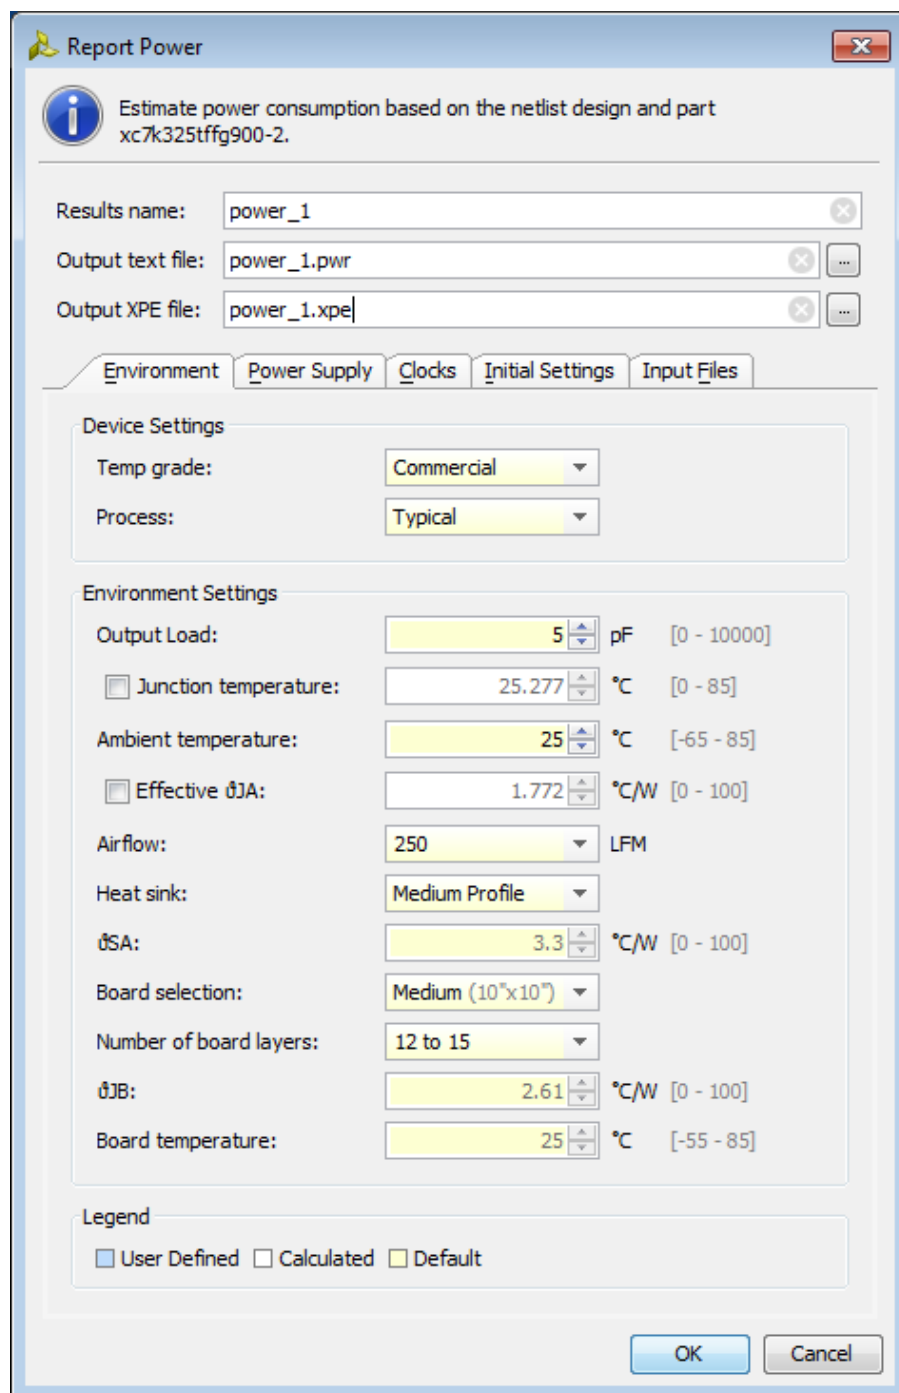
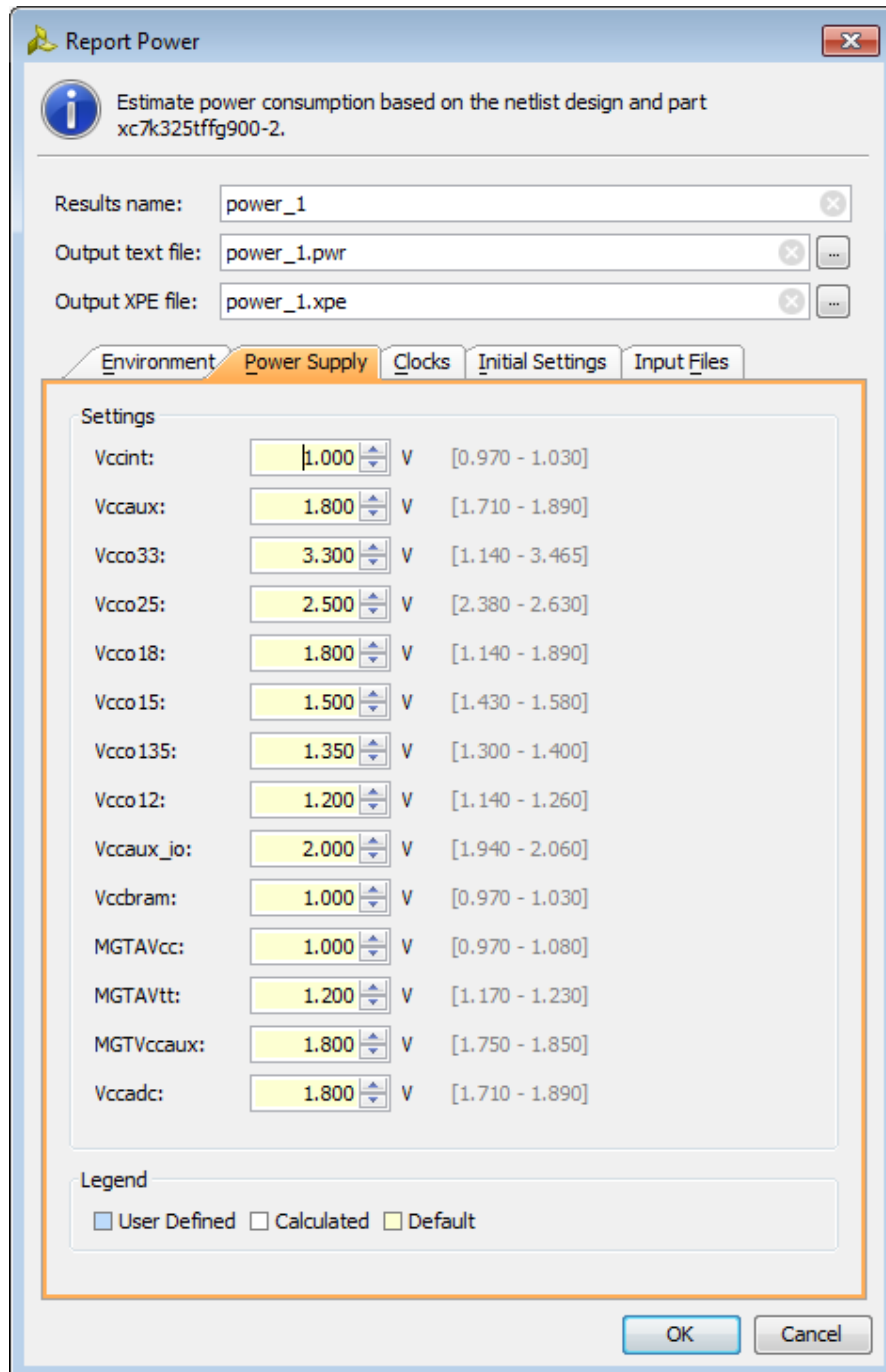

Figure 8: Report Power Dialog Box
Figure 9: Report Power Dialog Box – Power Supply Tab
4. Examine the **Environment** and **Power Supply** tabs in the Report Power dialog box (Figure 8 and Figure 9).